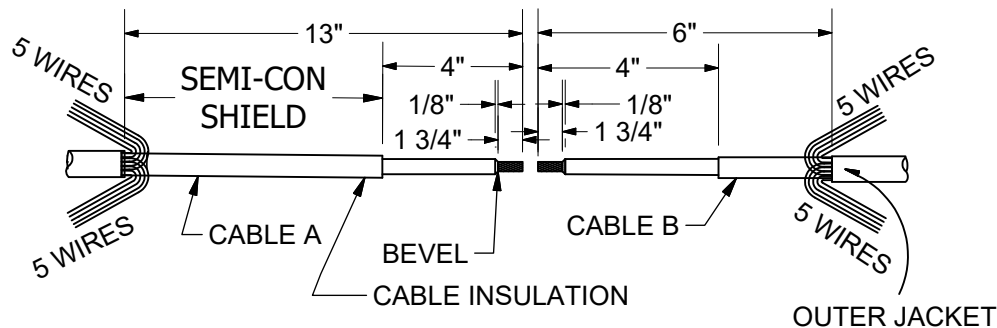

Figure 2
4. For single phase cables, train the concentric wires in two bundles each side, five wires per bundle. See Figure 2. For three phase cables, train the concentric wires in one six wire bundle.
6. Strip cables for splicing per Figure 2, clean cables - DO NOT USE SILICONE SPRAY ON CABLES OR SPLCE BODY.